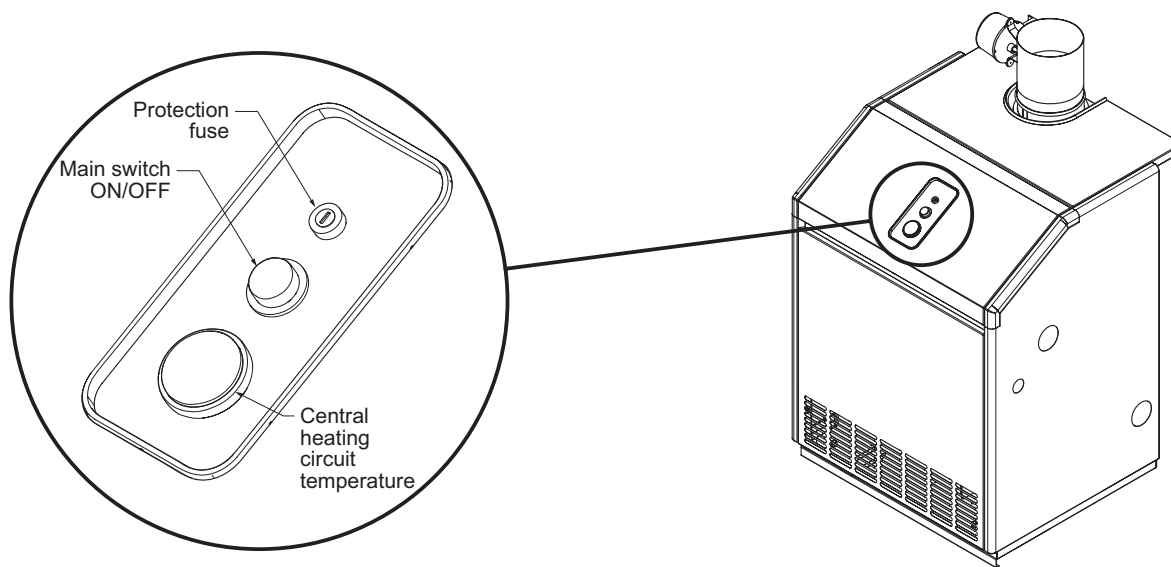

Figure 3.2
2. Power the boiler electrically by setting the power switch shows the sequence (Figure 3.2).